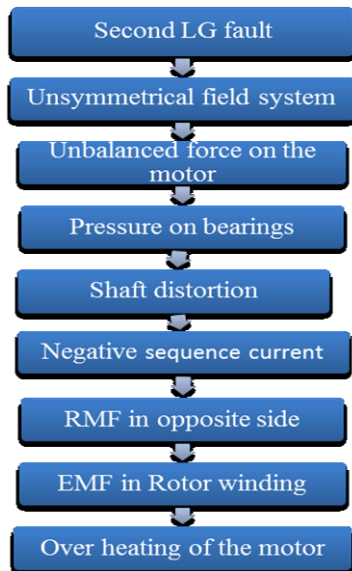

Figure 1 Sequence of effects of Conductor to Earth fault
- Overheating of the rotor. Figure 1 shows the sequence of effects of conductor to earth faults.